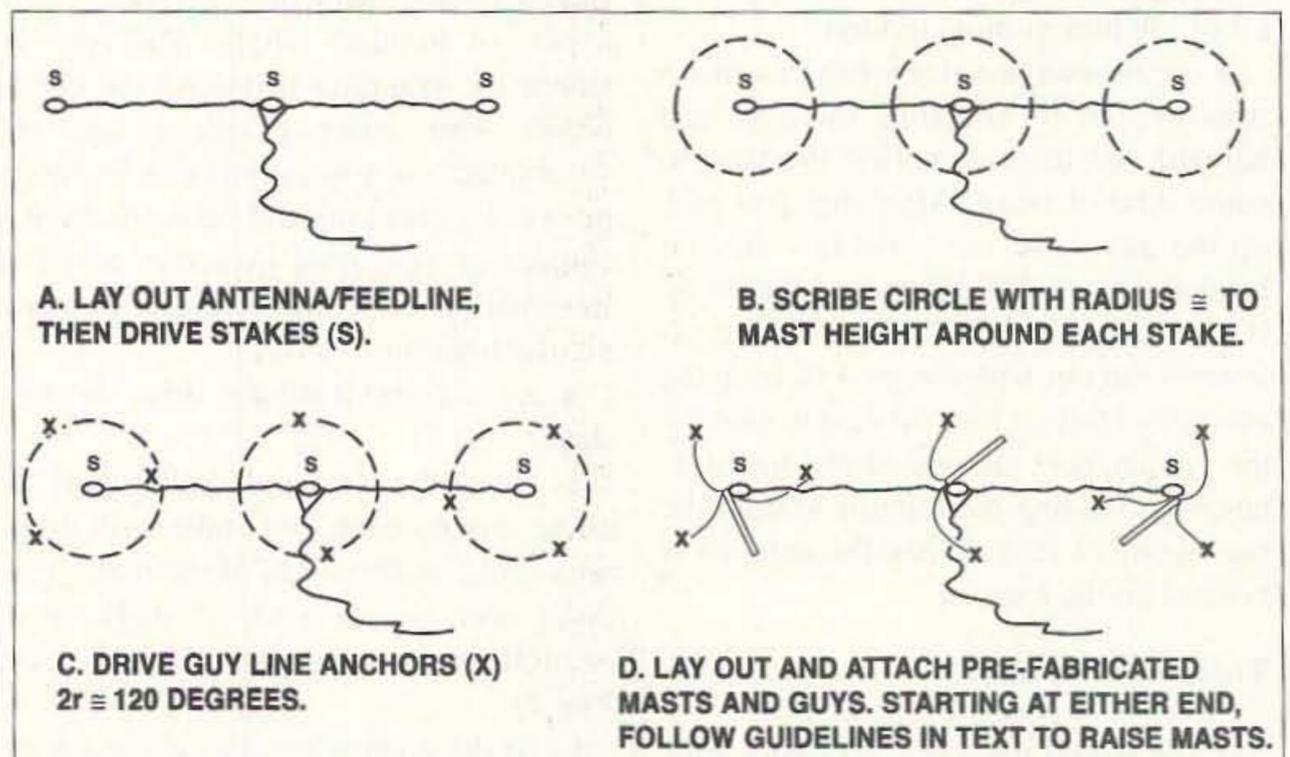

Fig. 2. Complete procedure.
**5.** Using the cord and chalk, "puff" a circle around each end stake with a radius equal to the height of the mast. You don't need to use a lot of chalk—just enough to tell where the circle is (see **Fig. 2**).